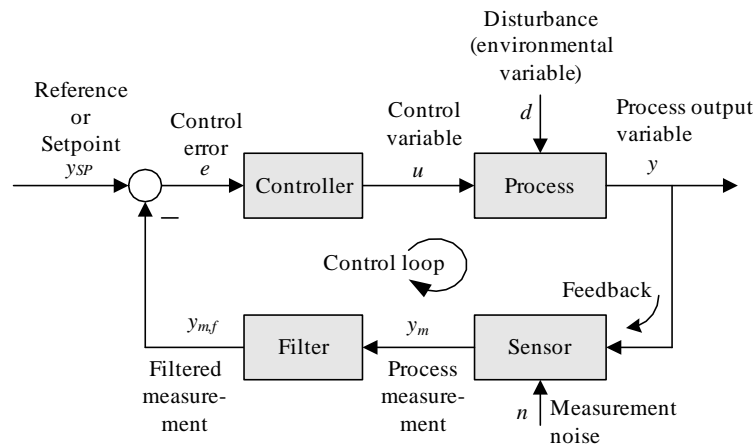

Figure 1: Block diagram of an error-driven control system
1. (10% weight) Figure 1 shows a block diagram of a feedback control system.